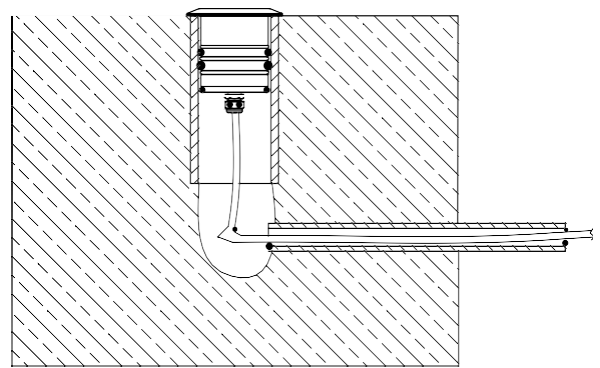

Figure 5
- Install the lighting fixtures into PVC pipes and confirm that the flipped edges of the fixtures are flush with the installation surface (Figure 5);